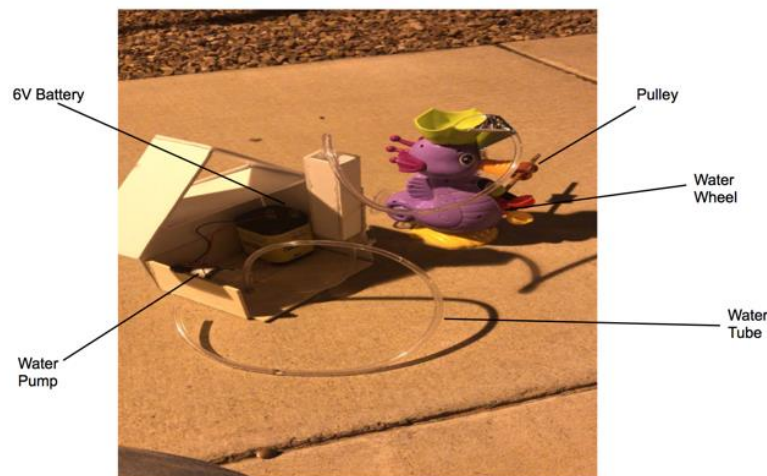

Figure 5: Isometric image of the water wheel step
Isometric image of the water wheel step is shown in **Figure 5**. Inside the house, a water pump and the batteries are kept. The water will be pumped on leaves of the wheel. As a result wheel starts rotating and a thread attached to the wheel will stretched which will lift the object by taking the assistance from the pulley.
- The house is hiding the battery and the water pump as shown in **Figure 5**.